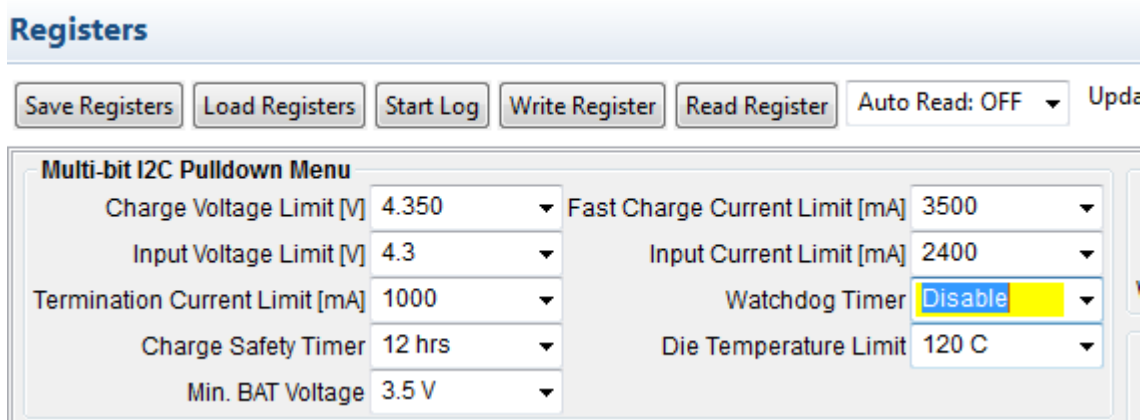

Figure 6. bq25910 Watchdog Timer Disable
- Once *WD_RST* is set, all the device parameters can be programmed. To keep the device in host mode, the host has to reset the watchdog timer by setting the *WD_RST* bit before the timer expires or disable the watchdog timer. For the purpose of this evaluation, we disable the watchdog timer by writing *REG05[5:4] = 00b*. This can be done by using the drop-down menu for the *Watchdog Timer* setting on the *Multi-bit I2C Pulldown Menu*. See Figure 6 for the location in bqStudio.